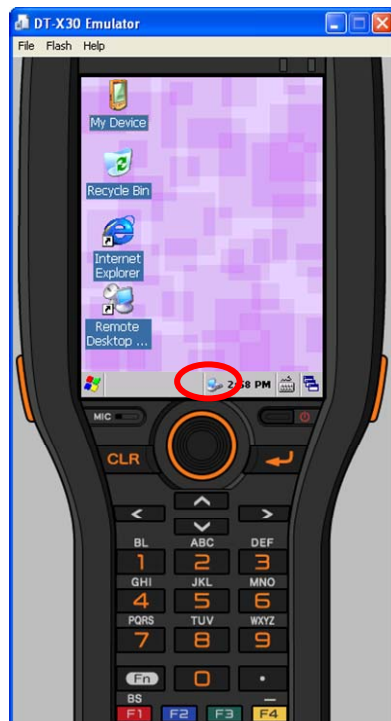

Figure 7.16
3. Make sure ActiveSync has started up and the  icon in the status bar appears. See the emulated screen of DT-X30 in Figure 7.16. The icon indicates that the connection via ActiveSync has been established.